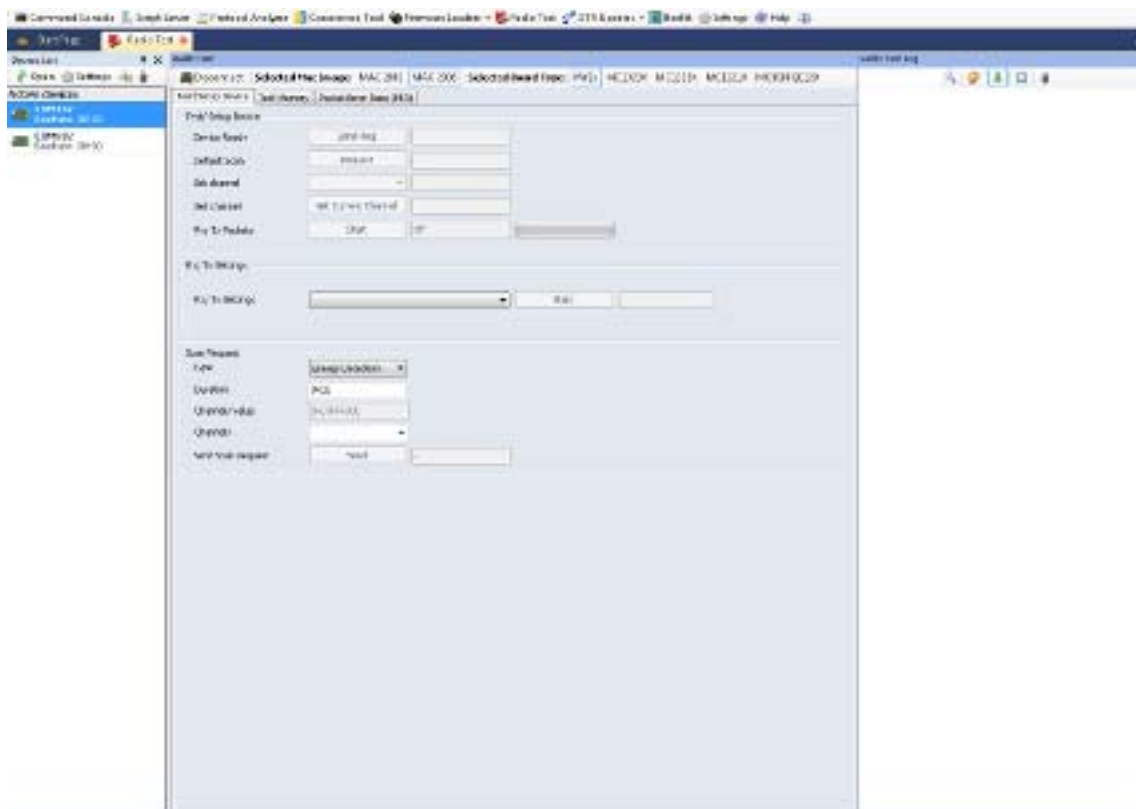

Figure 7-1. Radio Test Main Window
1. Launch the Radio Test application from the Test Tool menu bar. The “Radio Test” main window appears as shown in Figure 7-1.